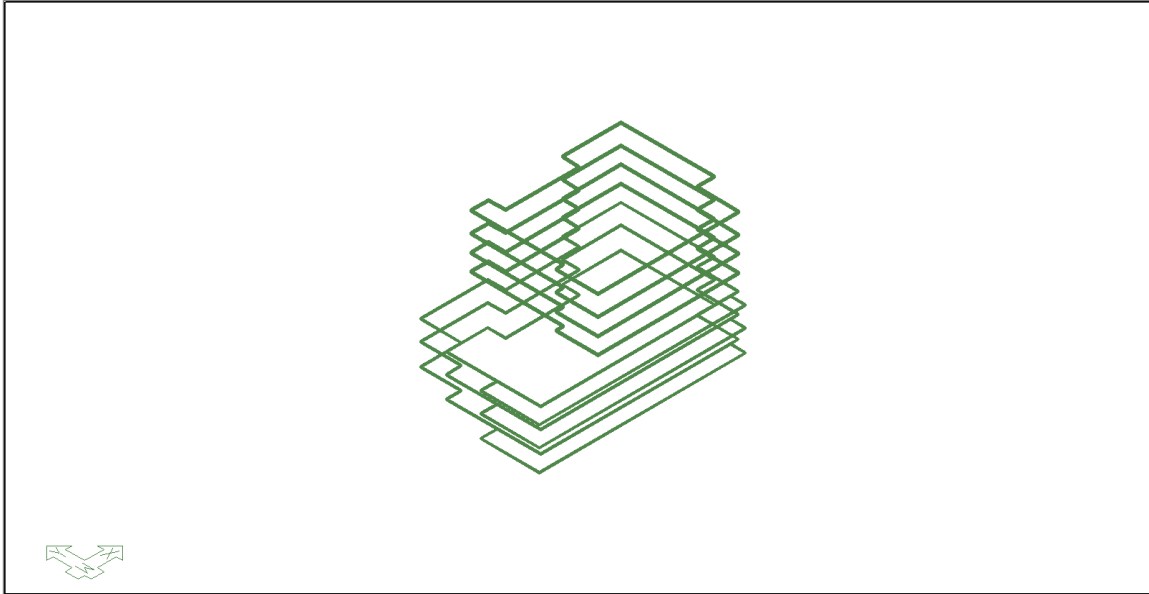

FIGURE 8-12
- The user will now see only the slabs as shown in **FIGURE 8-12**.